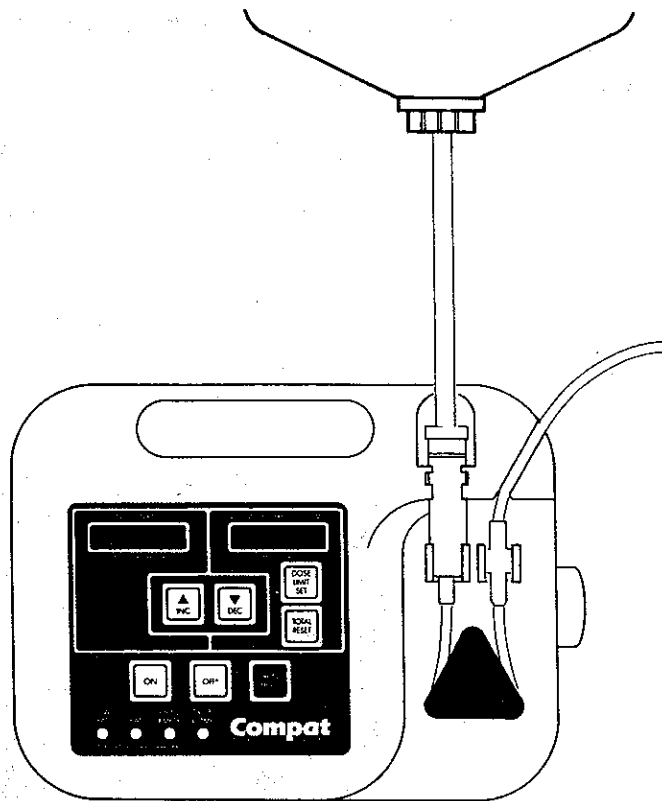

Figure 2-5 Pump Adaptor Placement. PVC Tubing Placement.
Insert pump adaptor into bridge. (Figure 2-5)
9. Place tubing into tubing guide. (Figure 2-5)